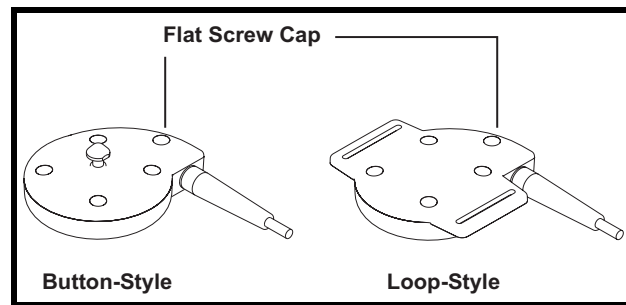
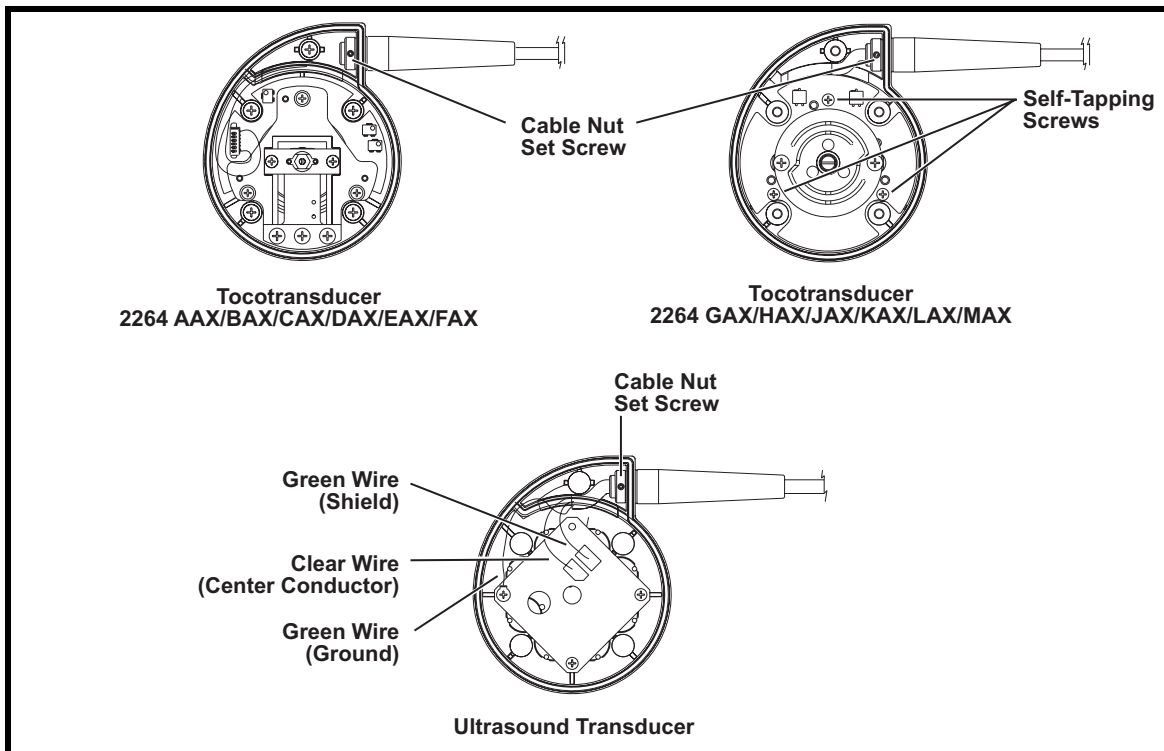

Figure 7-5. Sealing Screw Caps
Figure 7-6. Nautilus Transducers—Cover Removed
Refer to Figure 7-5 and Figure 7-6 while using the cable replacement kit.
2. Use the screw cap extraction tool to pry off the five screw caps (Figure 7-5). Discard all caps.
5. Remove the cable connector according to the transducer type (Figure 7-6):
10. Connect cable according to transducer type (refer to Figure 7-6):
- a. Solder the green and clear cable wires to the PC board (Figure 7-6).
3. Use the screw cap extraction tool to pry off the five screw caps (Figure 7-5). Discard all caps.
Refer to Figure 7-6 during calibration.